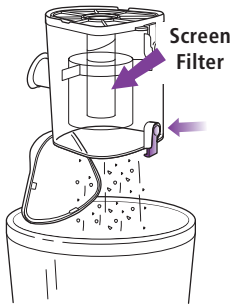

Fig. 19
- If needed, turn the dust cup upside down over the trash receptacle and press the top door release button. **(Fig. 19)** Tap gently to remove contents.